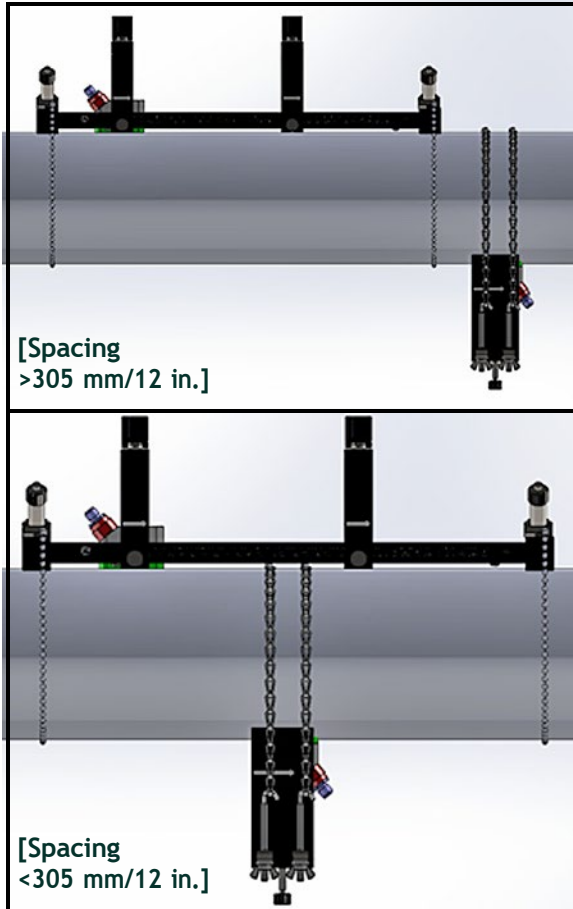

Figure 33: Completed Odd-Traversal Installation (Top View)
9. Tighten the yoke screw until the transducer firmly contacts the pipe. Your completed odd-traverse installation should look like Figure 33 below.